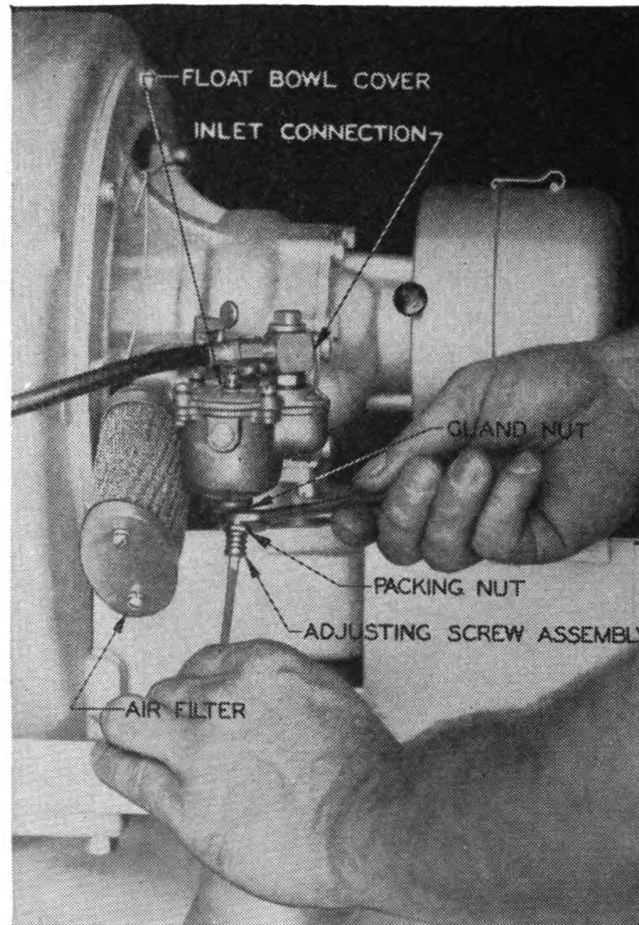

FIGURE 7.—Carburetor adjustment.
*c. Carburetor (fig. 7).*—Adjustment of the carburetor will be made by ordnance personnel only.
(1) Keep the strainer in the fuel inlet connection on top of the carburetor bowl free from sediment. When this strainer is being inspected, open the fuel line shut-off cock beneath the fuel tank to make certain there is a free flow of fuel to the carburetor.
(2) If fuel does not flow freely, remove the fuel filter sediment bowl beneath the fuel tank and clean the strainer in the top of the bowl.
(3) The carburetor is furnished with a concealed adjusting screw which is properly set at the factory and seldom if ever requires adjustment. In case of carburetor trouble, before changing this adjusting screw setting, make sure that fuel flows freely to the carburetor by inspecting both strainers as explained in (1) and (2) above.
(4) Where adjustment of the carburetor is found necessary the